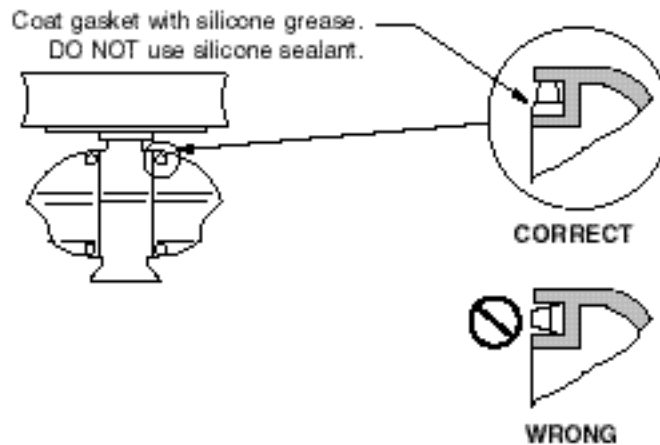

Figure 2-5 Correct seating of waterproofing gasket
13. Confirm that all screws are tightened and all wiring is properly mode. Coat waterproofing gasket, bolts and tapping holes of scanner unit with silicone grease. Check that the waterproofing gasket is seated as shown in Figure 2-5. Close the scanner unit cover.